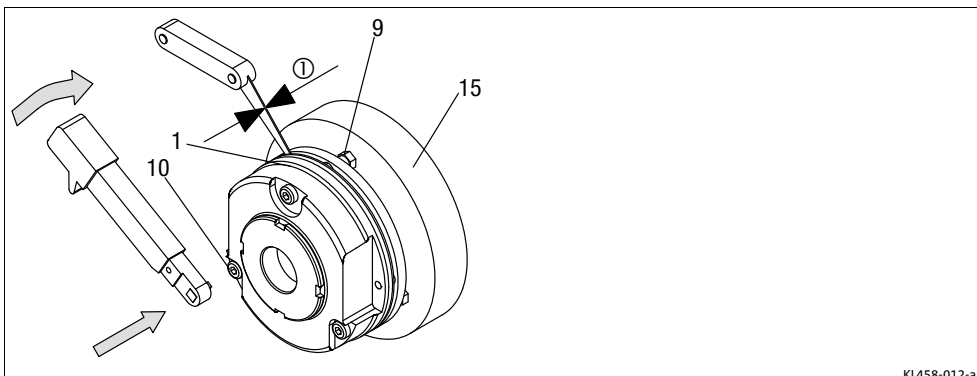

Fig. 5 Stator mounting
3. When assembling the stator (1), push the shaft sealing ring carefully over the shaft.
4. Use the screws (10) to mount the stator (1) completely to the end shield (15) (Fig. 5).
- Tighten the screws evenly, tightening torque (45).